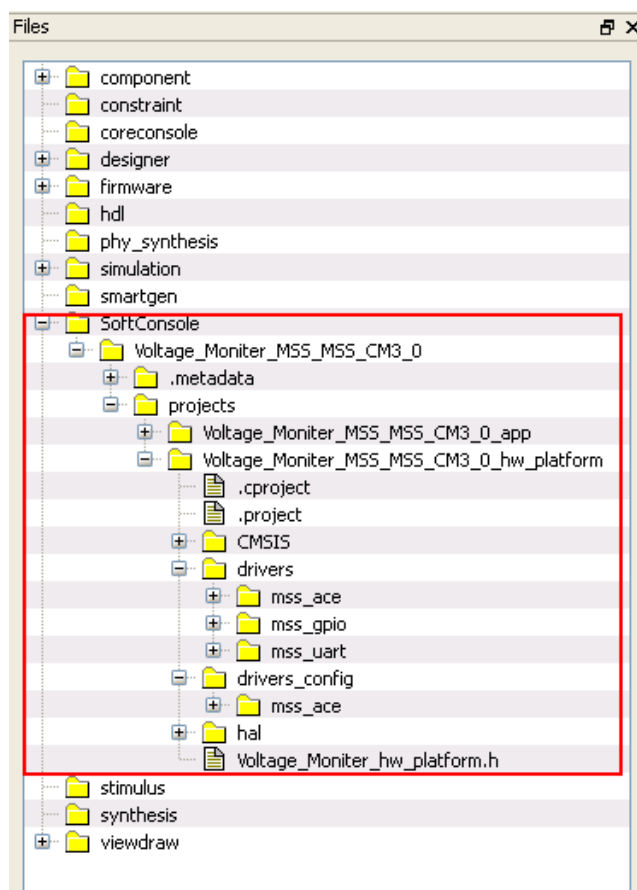

Figure 55 · Files Window
- Confirm that the SoftConsole folder is created with the folders and files as shown in Figure 55 .